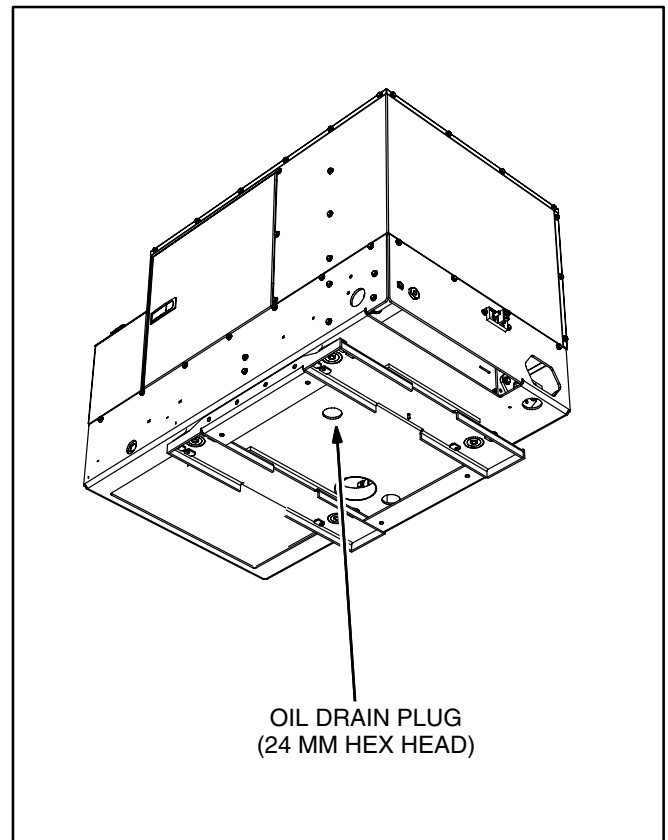

FIGURE 3-2. OIL DRAIN PLUG
1. Place a pan under the oil drain plug (Figure 3-2), run the genset until warm and shut it off.